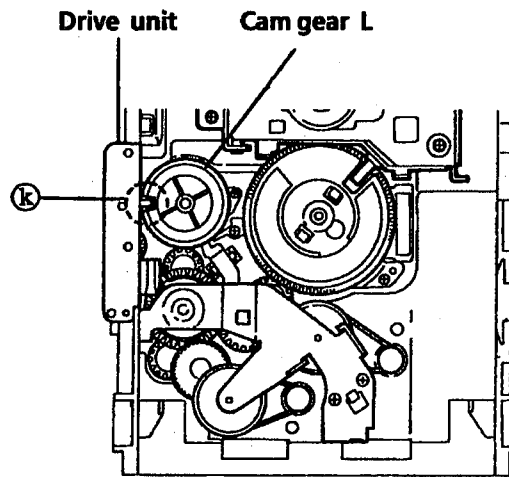

Fig. 34
2. Rotate the Cam gear L so that the drive unit's pawl ⑫ is positioned as shown in Fig. 34.